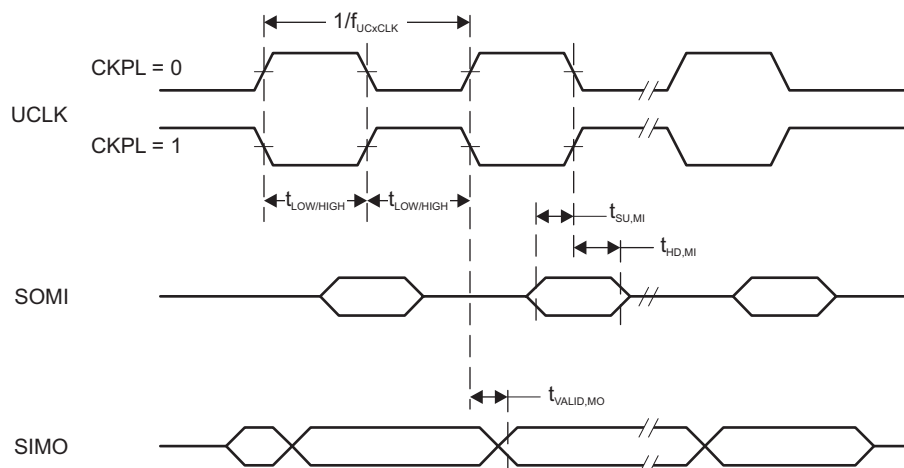
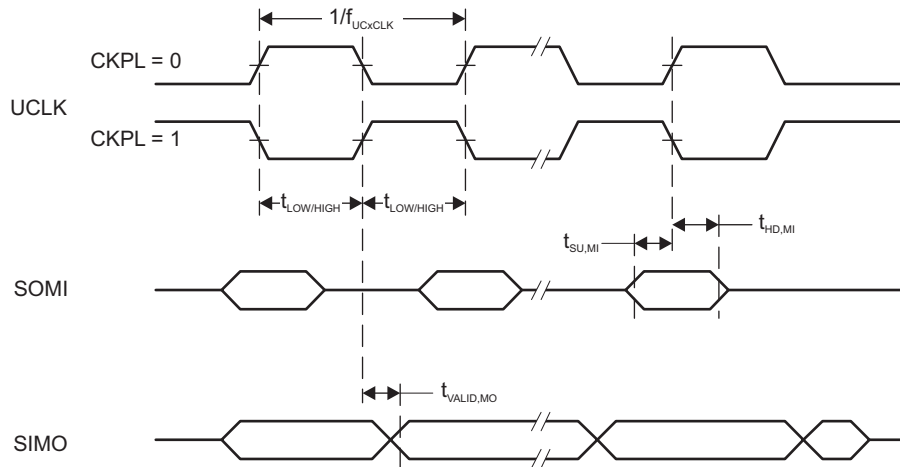

Figure 5-11. SPI Master Mode, CKPH = 0
Figure 5-12. SPI Master Mode, CKPH = 1
- Specifies the time to drive the next valid data to the SIMO output after the output changing UCLK clock edge. See the timing diagrams in Figure 5-11 and Figure 5-12.
- Specifies how long data on the SIMO output is valid after the output changing UCLK clock edge. Negative values indicate that the data on the SIMO output can become invalid before the output changing clock edge observed on UCLK. See the timing diagrams in Figure 5-11 and Figure 5-12.